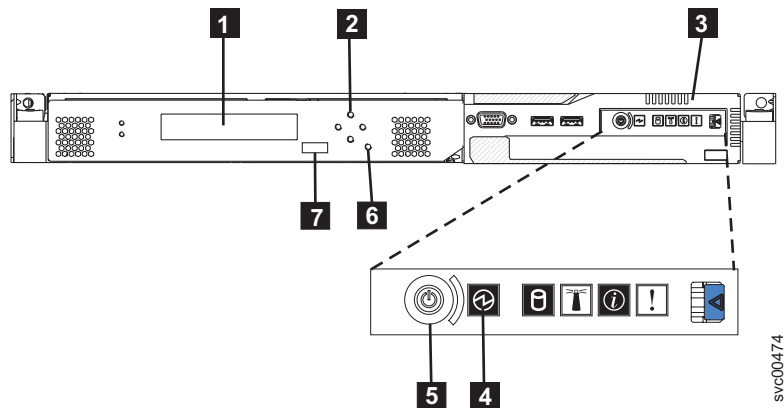

Figure 29. SAN Volume Controller 2145-8G4 front panel
**Note:** You do not need to install any software. The node boots automatically. Figure 29 illustrates the controls and indicators on the front panel that are used to verify the installation.